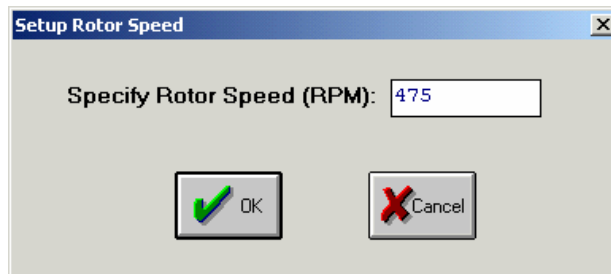

Figure 6: Setup Rotor Speed Window
3. Select **Command - Execute** from the main menu to execute your experiment. A window similar to Figure 6 will appear that allows you to specify how to execute the trajectory.